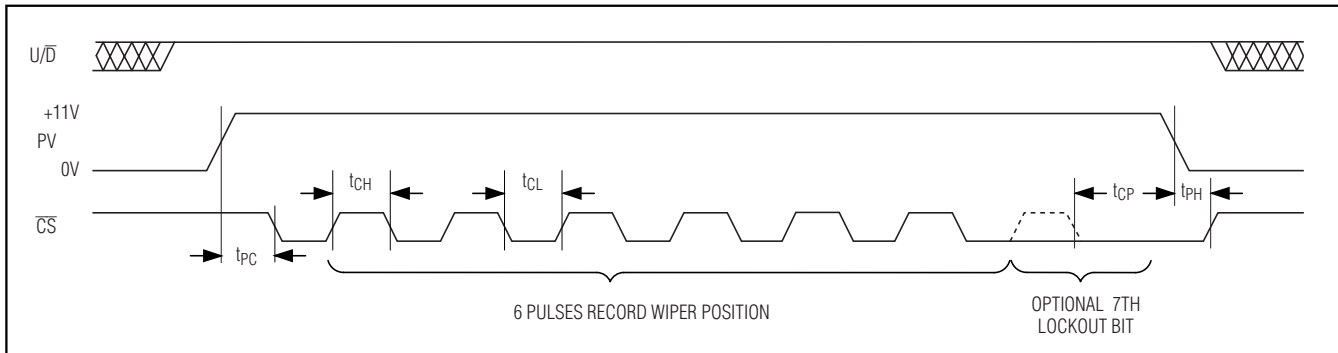

Figure 5. One-Time Program Mode, Serial-Interface Timing Diagram
Change the wiper's power-up position using the PV one-time programming sequence after power-up (see Figure 5). After setting the wiper to the desired power-up position, perform the following six-step sequence:
- 4b) Pulse $\overline{CS}$ high for seven cycles, consisting of $\overline{CS}$ starting low and going high for at least t_{CH} and then low for at least t_{CL} , to change the wiper power-up position and lock the wiper in that same position. The seventh $\overline{CS}$ pulse is labeled the optional lockout bit in Figure 5.